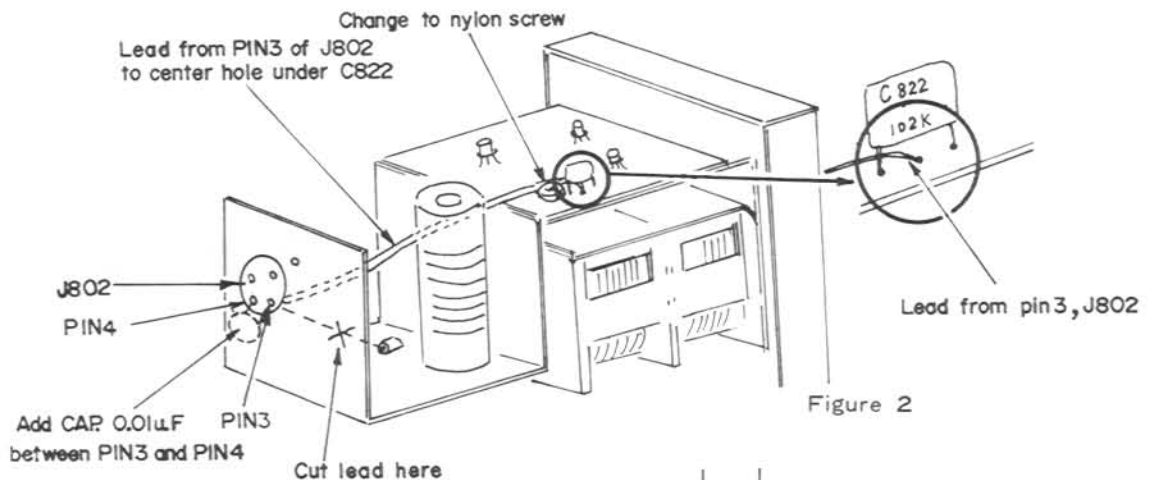

Figure 2
- (2) Refer to Fig. 2 , and remove the ground lead from pin 4 of J₈₀₂. Re-route the lead so that the connection is from pin 4 of J₈₀₂ to the center hole under C₈₂₂.
- (3) Change the screw adjacent to C₈₂₂ to a NYLON screw.
- (4) Add a new 0.01 disc ceramic capacitor between pins 3 and 4 of J₈₀₂.
- (5) Install a new ground lead, made from a heavy braided wire of 100-120 mm length. This lead should run from the VFO compartment to the ground lug for the XTAL UNIT, as shown in Fig. .